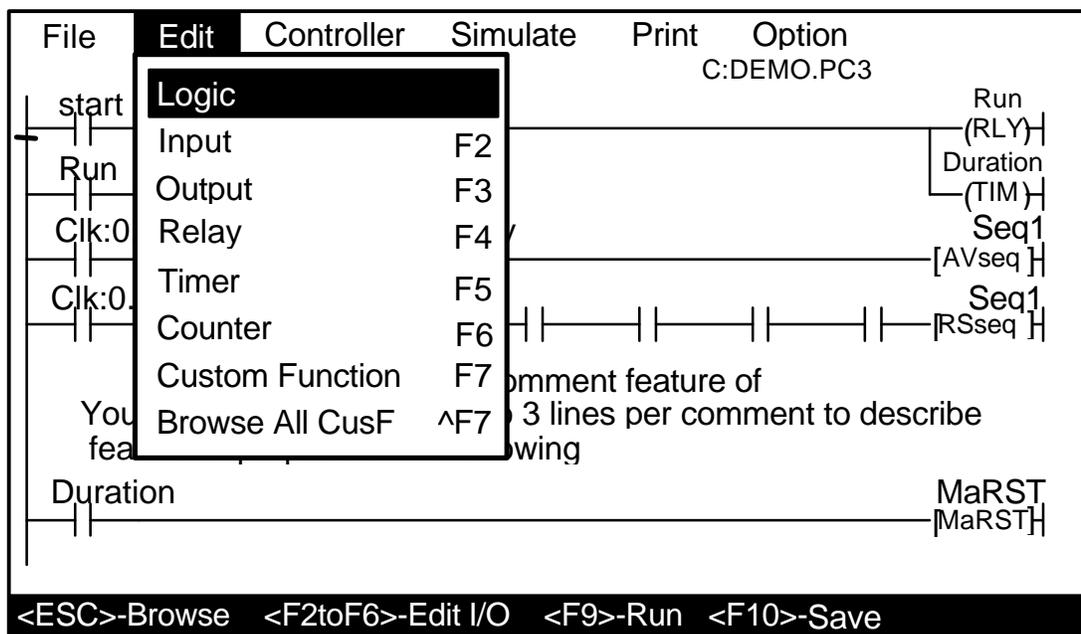

Figure 2.4
10. Press <ESC> key to return to the main menu. Open the pull-down "Edit" menu as shown in Figure 2.4. The first command ("Logic") on the menu will put you back to the ladder logic editor. The next few items are for editing or defining new i/o names in any one of the five I/O tables, namely the "Inputs", "Outputs", "Relays", "Timers" and "Counters" definition tables. The last two items are for creating and browsing Custom Functions which will be described in PART TWO of the Programmer's Reference manual.